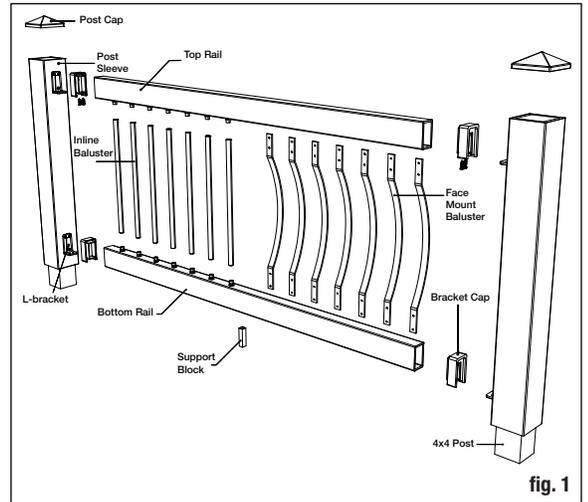
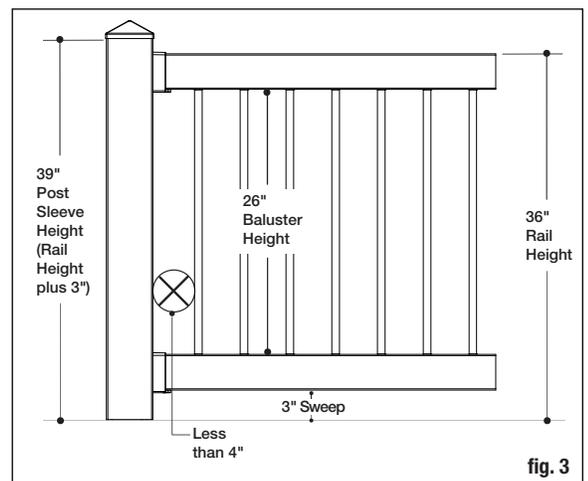
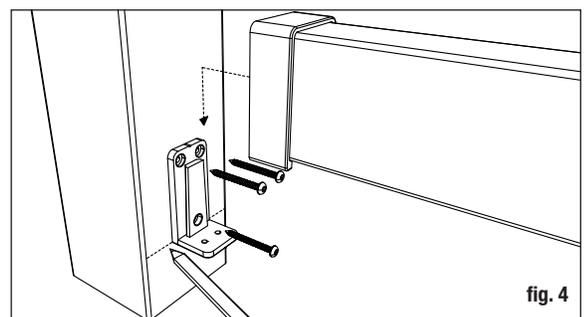

fig. 1
fig. 3
fig. 4
**Step 6** Measure the distance between installed post sleeves to determine the length of the top and bottom rails (fig. 1). The distance between the post and first baluster should be less than 4" and equal on both ends (fig. 3). Remove an additional 9/16" on both ends (1-1/8" overall) for the bracket to fit between the rail and post. Trim the top and bottom rails to length.
**Classic and Estate Balusters** The rails are pre-drilled with the proper spacing. Attach baluster connectors to the top and bottom rails (fig. 1). Do not over-tighten screws. Apply silicone caulk on each connector to prevent balusters from turning or rattling after installation is complete. The caulk should be on the outside of the round connector.
**Step 8** Position the bottom rail between posts and center. *Note: Check building code requirements for maximum spacing between deck surface and bottom of rail (sweep).* Spacing of 3" is recommended, but can be more or less if codes allow (fig. 3). Mark the bottom location of the L-bracket on both posts (refer to fig. 4). Remove rail. Mark the screw locations and pre-drill through the post sleeve only, using a 1/4" drill bit. Attach each L-bracket to the post with three 1-3/4" screws.
**Step 9** A support block is needed at the center of each rail. Cut the support block to the proper height. Attach to the bottom of the lower rail (refer to fig. 1). Find the center of the rail and pre-drill using a 1/8" drill bit. Attach the support block connector using the included screw.
**Step 10** Place bracket caps over each end of railing and install. The bottom rail L-brackets and bracket caps do not need to be screwed together (refer to fig. 4).
**Step 11** Figure 3 illustrates how a 36"-high railing might be sized. *Note: Use a fixture to ensure a consistent length (+/- 1/16").*
**Step 12** Position the top rail between the posts. Check for level end-to-end and vertically. Mark the bracket location on post sleeve and remove rail (refer to fig. 4). Mark the screw locations using the bracket as a guide, and pre-drill using a 1/4" drill bit through the post sleeve only. Attach L-bracket to the post with three 1-3/4" screws at one end. Repeat for the other end.
**Step 3** Complete stair tread installation prior to installing post sleeves. Trim 4x4 post sleeves to length. If using post caps, post sleeves should be a minimum of 1-1/2" longer than the overall railing height (refer to fig. 3). Example: For a 36" high railing, trim post sleeve to a minimum of 37-1/2". If your railing height is 36", add 1-1/2" plus 7" for riser. Post sleeve can be left longer if desired.